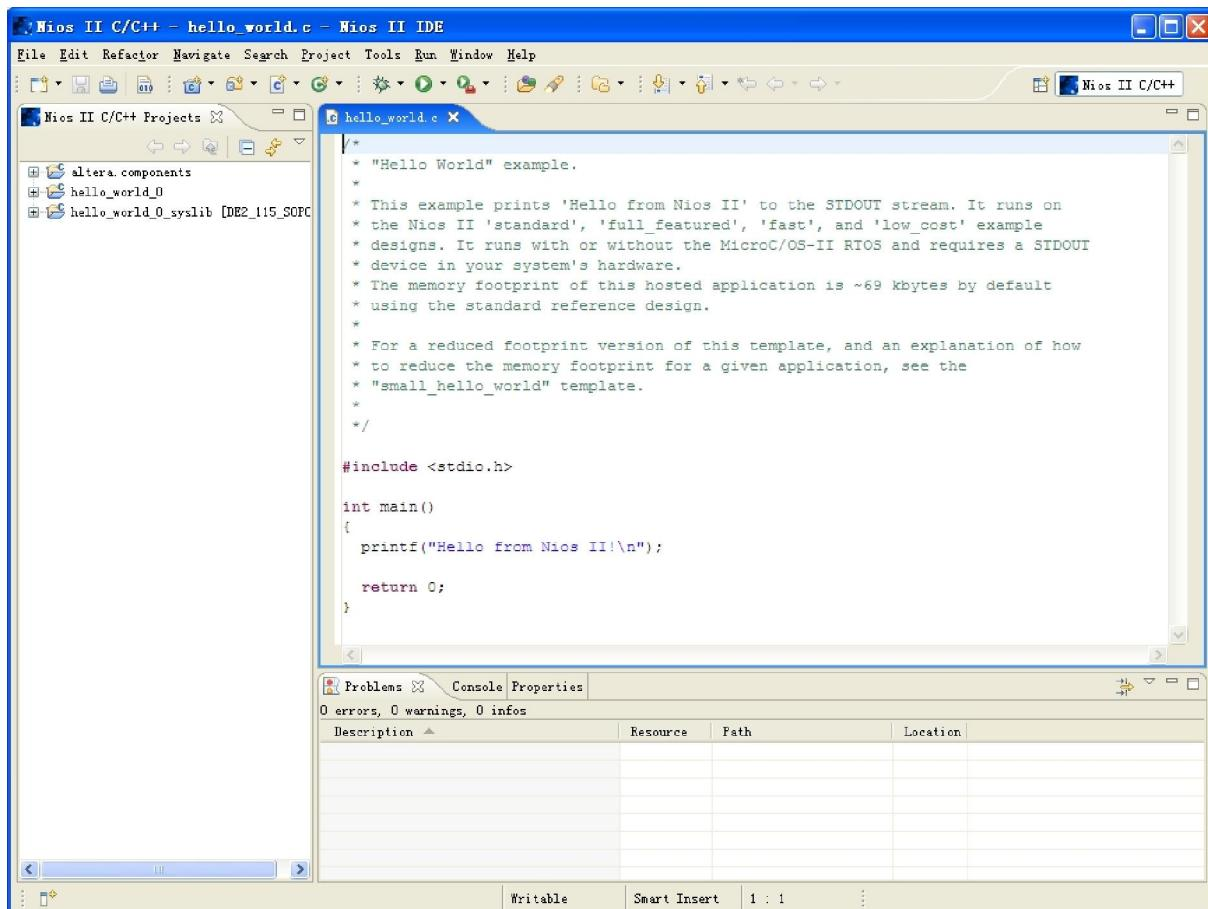

Figure 2-4 Nios II IDE C++ Project Perspective for hello_world_0
5. Click **Finish**. The Nios II IDE creates the **hello_world_0** project and returns to the Nios II C/C++ project perspective. See **Figure 2-4**.